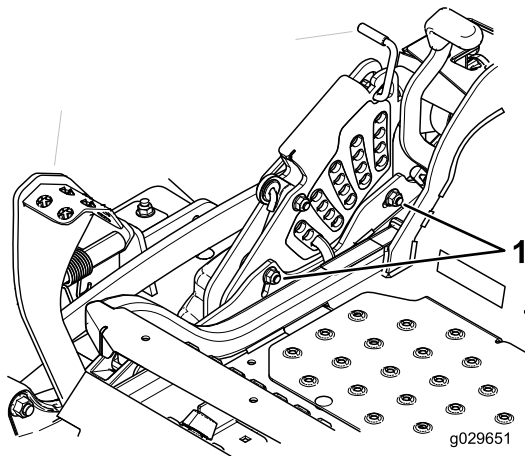

**Figure 95**
13. If the deck is too low, tighten the single-point-adjustment bolt by rotating it clockwise. If the deck is too high, loosen the single-point-adjustment bolt by rotating it counterclockwise (Figure 95).